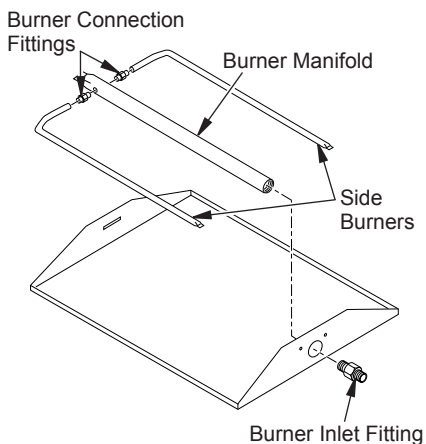

Figure 6 - Installing Burner
2. Place burner manifold in pan with threaded opening facing open knockout plug (see Figure 6, page 8). Make sure the burner ports face downward.
6. Press right and left side burners onto burner connection fittings. Burner porting should face downward (see Figure 6).